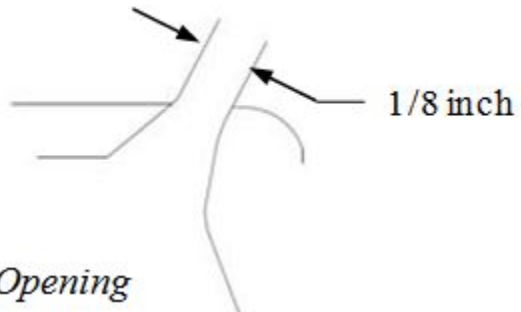

Figure 108G *Root Opening*
- a. Ensure a root opening of 1/8 inch to obtain full penetration. (See Figure 108G)